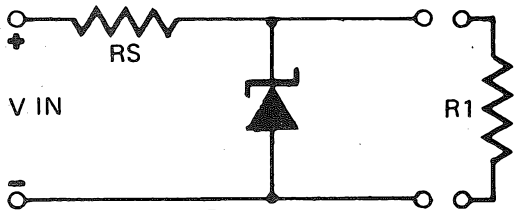

FIG. 2
A basic voltage regulator circuit, using one resistor and one (idealized) zener diode, is shown in Fig. 2. In the example shown, the zener diode is rated at 5.6 volts and the applied voltage V_{in} is 8.0 volts. With no load applied to the output terminals 5.6 volts will be dropped across the zener diode and the remaining 2.4 volts will be dropped across resistor R_s .
The resistor R_1 , in Fig. 2, represents an external load. If this load is connected across the circuit, then some of the current that was flowing through the zener will now pass through the load. Providing the current in R_s is greater than the load current some current will still pass through the zener and a substantially constant voltage will be maintained across the zener/load.
It is also necessary to ensure that the value of R_s is such that current flow through the zener diode cannot exceed its specified power rating: which is the zener voltage multiplied by the zener current. In the circuit shown in Fig. 2, maximum current will flow through the zener diode when the load is disconnected.
3. In the circuit shown in Fig. 2, the required output voltage, and hence the zener voltage, is 5.6 volts and the specified minimum zener current is 100 microamps. Thus the maximum zener current is 100 microamps plus 10 milliamperes — which is 10.1 milliamperes.